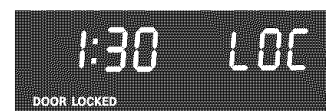

Fig. 1
1. Press and hold  for 3 seconds (Fig. 1).